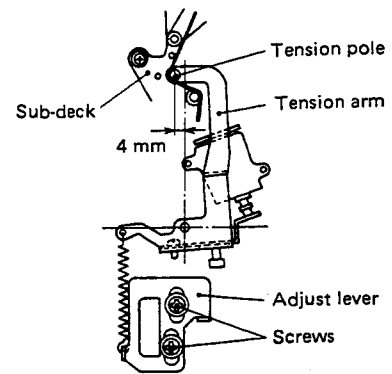

Fig. 2-31
7. Figure 2-31 shows the state after completing the adjustment.